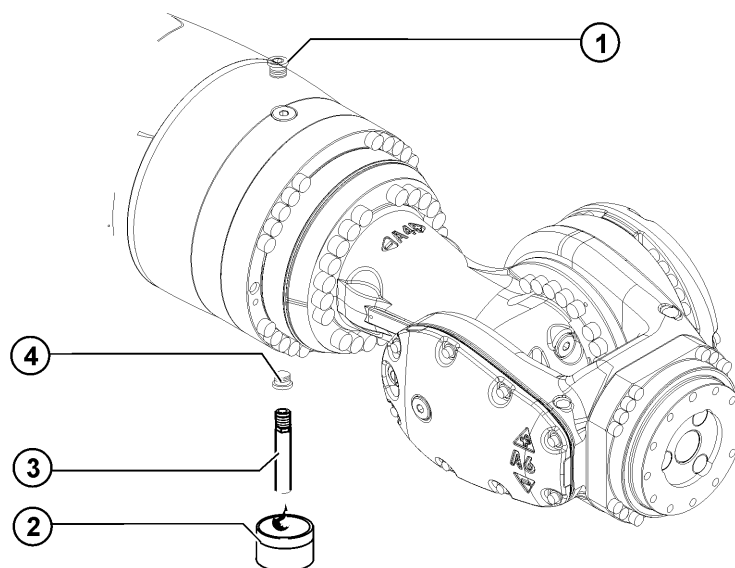

Fig. 9-6: Oil change, A4
1. Place a suitable receptacle (>>> Fig. 9-6) under the (lower) magnetic screw plug and remove the magnetic screw plug.